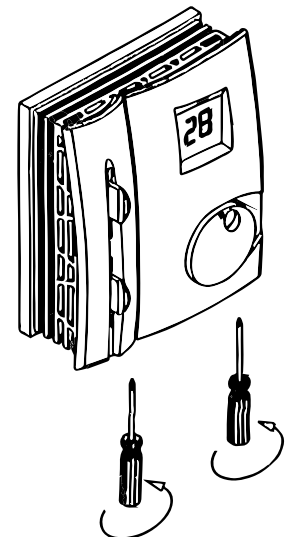

Figure 11
5. Attach the screws again at the bottom of the cover and tighten into place as shown in **Figure 11**.